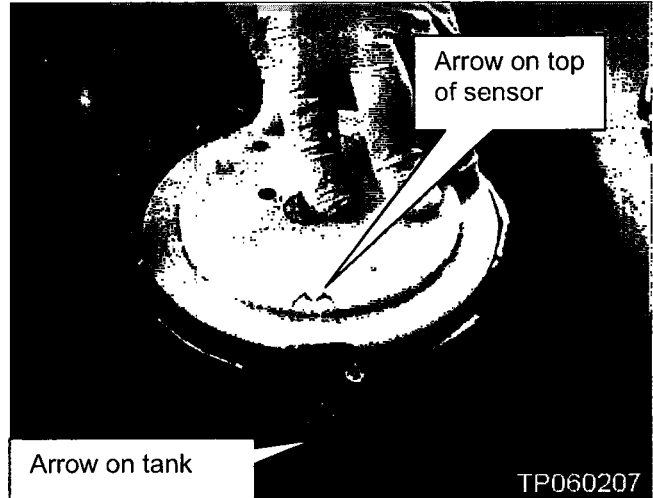

Figure 43
41. Make sure the arrow on the tank and the arrow on the top of the sensor are aligned as shown in Figure 43.